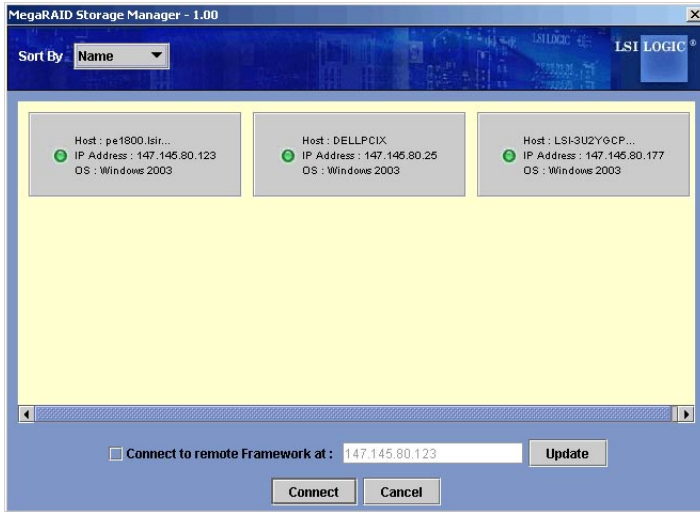

Figure 5-1: Select Server Window
3. When the next screen appears, read and accept the user license, and click Next. The Customer Information screen appears, as shown in Figure 5.1.
When the program starts, the Select Server window appears, as shown in Figure 5-1.